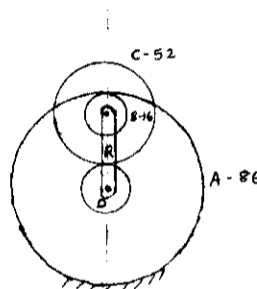

Fig.Q7(b)
- b. In the epicyclic gear train shown in Fig.Q7(b) gears B and C are keyed to a shaft carries on a revolving arm R. Arm R turns about the axis of gears A and D. If all the gears have same pitch, find the number of teeth on gear D. If gear D rotates at 600 rpm clockwise. Find the speed and sense of rotation of arm R. (14 Marks)